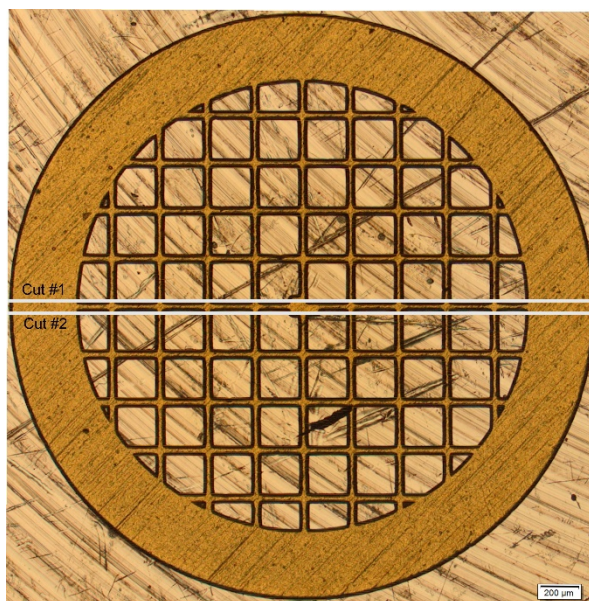

Figure 1. Gold Grid Cut Diagram
Figure 1. Gold Grid Cut Diagram	7
- Cut the gold grid as shown in the cut diagram image (*Figure 1*). Working under a low-power stereo microscope, use a clean razor blade to make each cut.